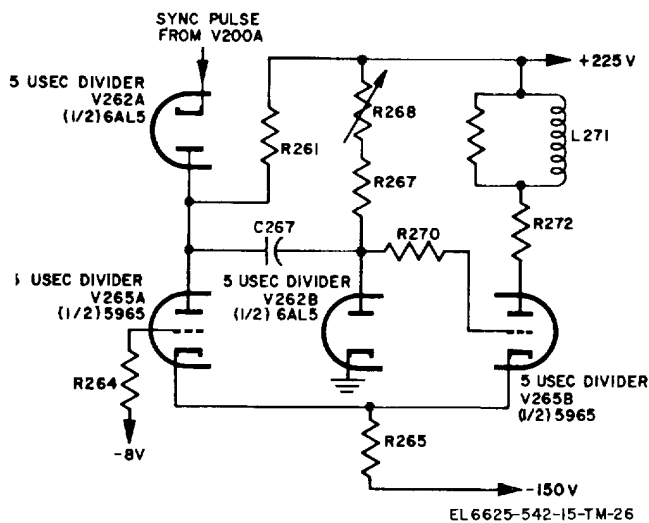

Figure 5-4. Multivibrator circuit, simplified schematic diagram.
b. Operation of each divider circuit is essentially the same. Each circuit consists of a bi-stable multivibrator with diode coupling for triggering pulses. Operation of these circuits is described in the paragraphs that follow. Figure 5-4 is a simplified schematic diagram of a multivibrator circuit and should be referred to during the following description.